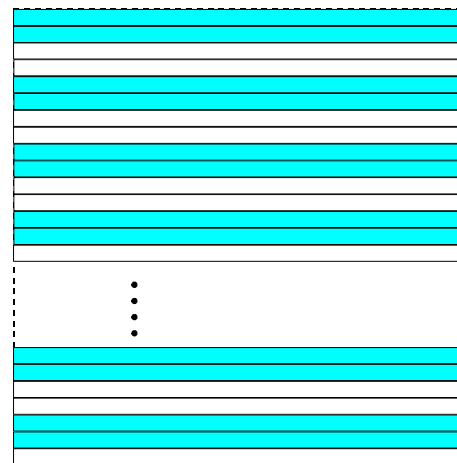

Fig. 63: Decimation of 2 (Color Cameras)
- 2 for color cameras: only every other pair of rows of the acquired frame will be transmitted out of the camera meaning that the Bayer filter stays properly aligned (Figure 63).